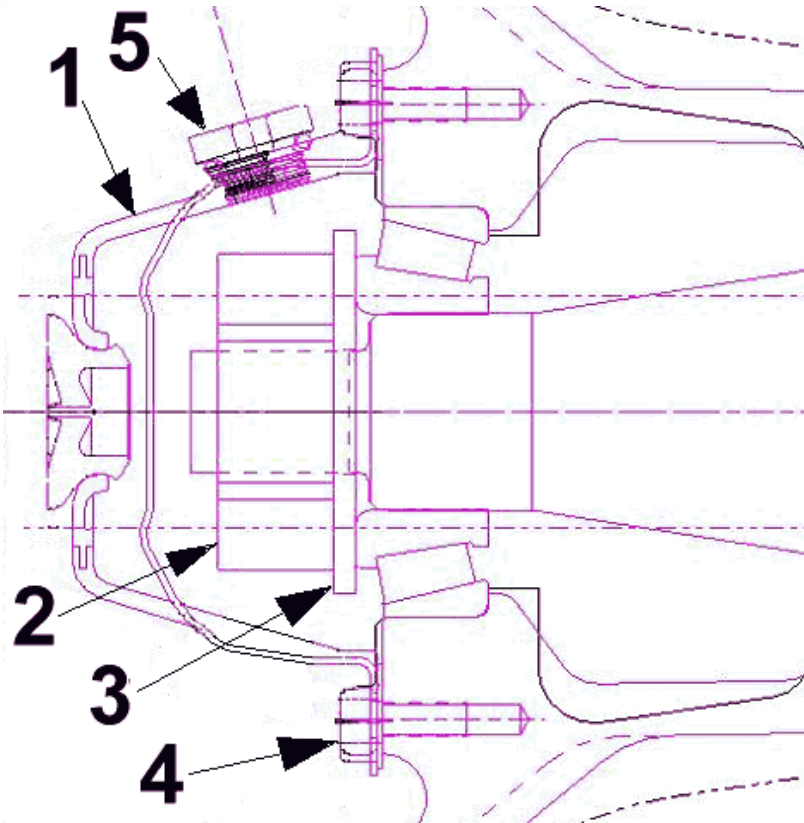

Figure 1 Front Steer Axle Spindle Assembly
2. Remove the fill plug (Figure 1, Item 5), drain the oil, remove the hub cap and gasket (Figure 1, Item 1).